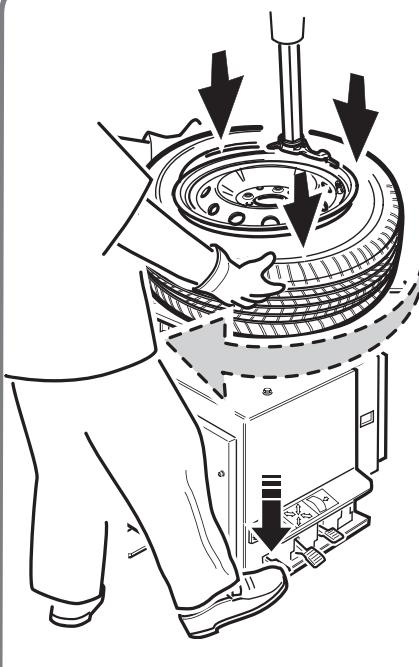

Fig.18
- Once the bottom bead is completely mounted, repeat the same steps for the upper bead (Fig.18).
- If you are working with aluminium alloy wheels, external locking is recommended, using with the supplied protection kit for the sliding clamps (26) in order to avoid